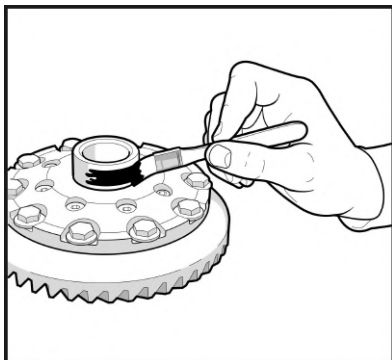

Fig. 22
2.11 Apply grease to the bearing journal surfaces. (**Fig. 22**)